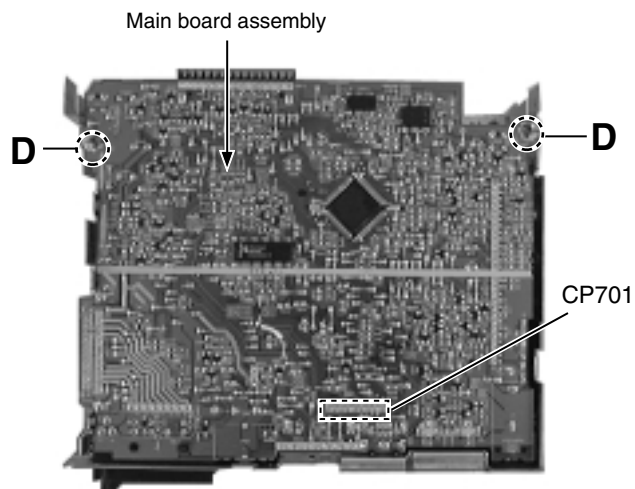

Fig. 7
■ **Removing the main amplifier board assembly (See Fig.7)**